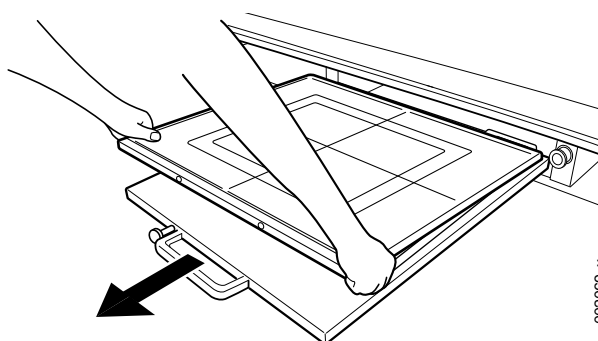

Fig. 4-47 *Detector removal*
2. Remove the detector by pulling it towards you according to Fig. 4-47 *Detector removal*.